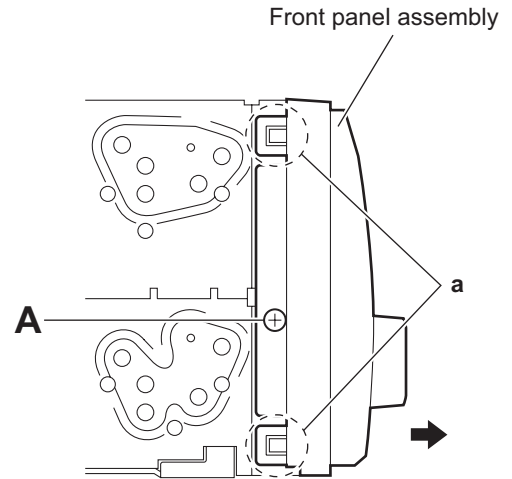

Fig.1
(See Figs.1 and 2)
- (1) From the both side of the main body, remove the two screws **A** attaching the front panel assembly. (See Figs.1 and 2.)
- (2) Release the four joints **a** and remove the front panel assembly in the direction of the arrow. (See Figs.1 and 2.)